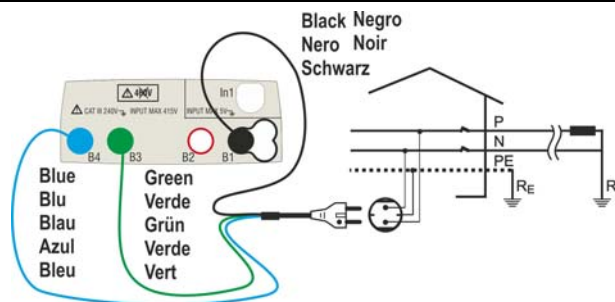
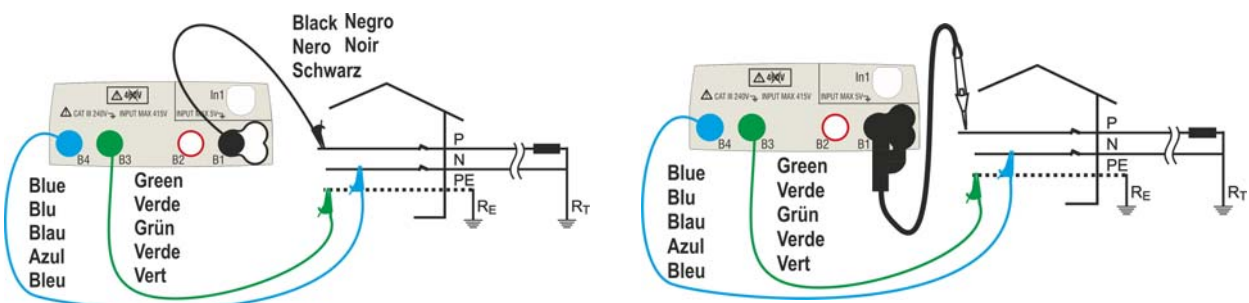
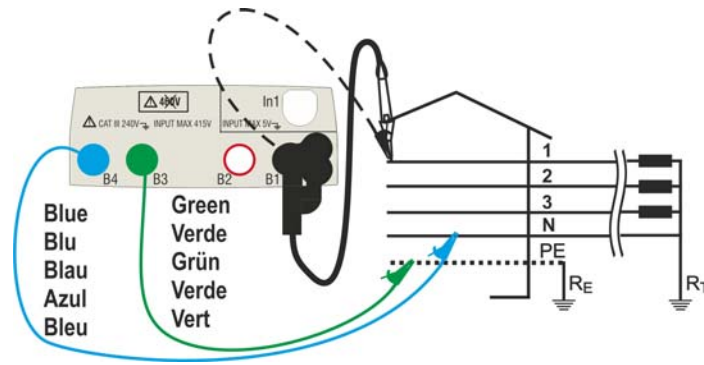
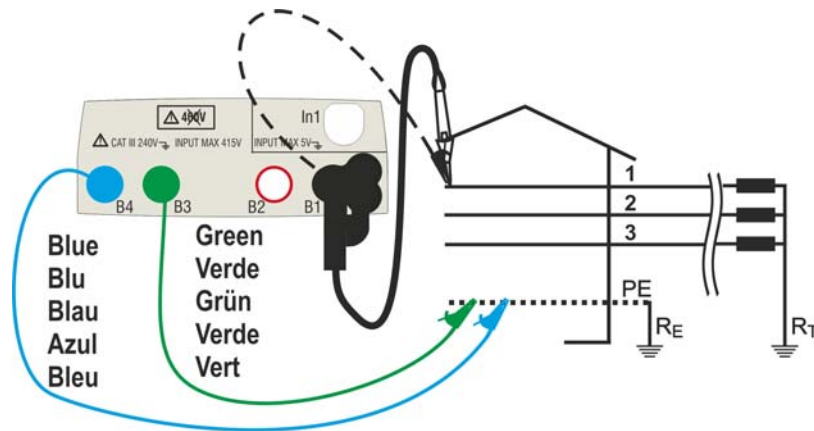

Fig. 16: P-N/P-PE measure for single-phase/two-phase 230V systems with shuko plug
Fig. 17: P-N/P-PE measure for single-phase/two-phase 230V systems with cables and remote lead
Fig. 18: P-N/P-PE measurement for 400V+N+PE three-phase systems by means of single cables and remote lead
Fig. 20: P-PE/P-N measurement for 400V + PE (no N) systems by means of single cables and remote lead
4. Connect the shuko plug, the alligator clips or the remote lead to the electrical mains according to Fig. 16, Fig. 17, Fig. 18 and Fig. 20.
4. If possible, disconnect all loads connected downstream of the measured point, as the impedance of these users could distort the test results. Connect the shuko plug, the alligator clips or the remote lead to the electrical mains according to Fig. 16, Fig. 17, Fig. 18 and Fig. 20 in the nearest possible point to the protection device